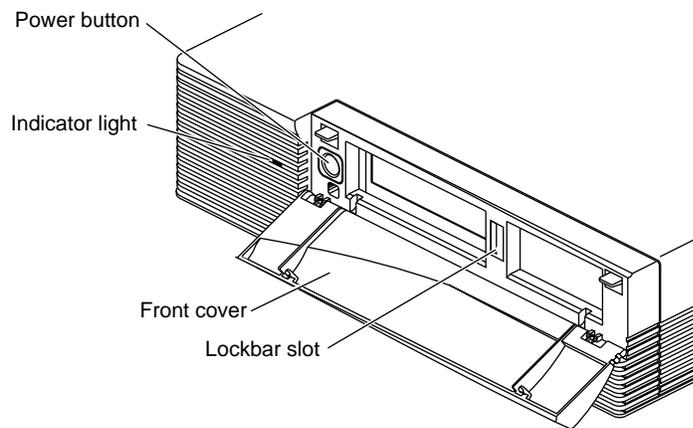

Figure 2-2 Turning Off the Power
1. Open the front cover (Figure 2-2).
2. Press and release the power button on the front of the system. The power indicator light turns off (Figure 2-2)